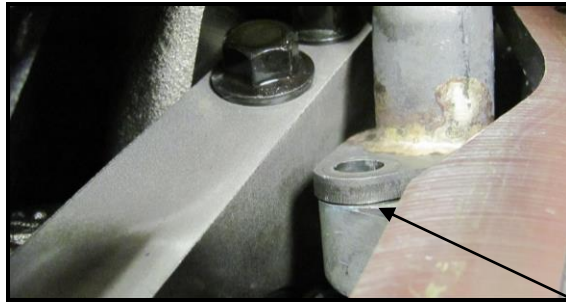

Figure 7
3. Install the new Holley® oil pump pickup screen assembly ensuring that oil pump pickup screen tube is pushed completely into the oil pump before tightening the bolt (**Figure 7**). Do not allow the bolt to pull the tube into the pump.